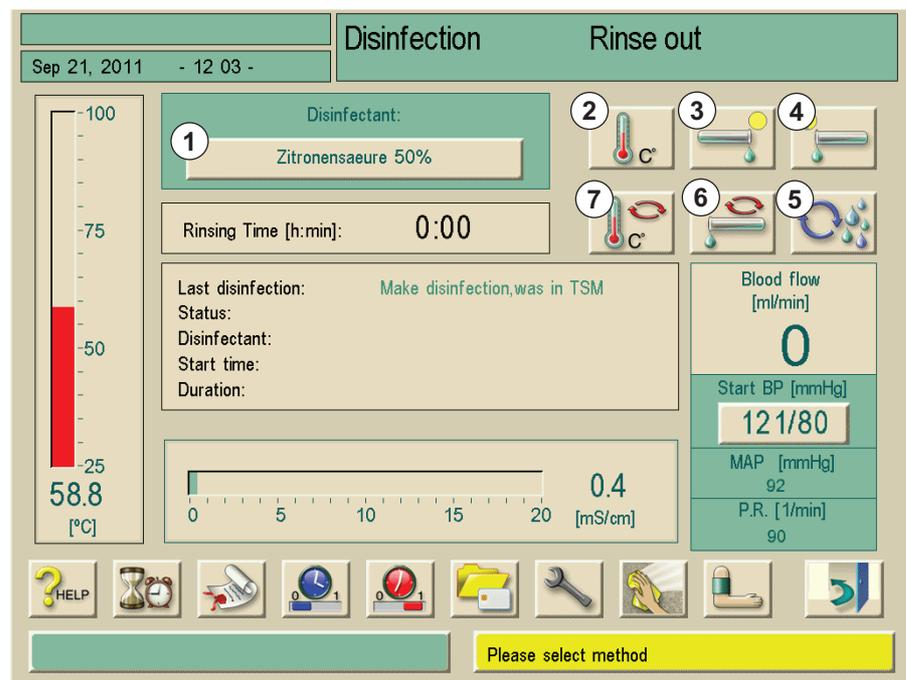

Fig. 12-1 Selection of disinfection program
1. Touch icon in Disinfection mode (see Fig. 12-1 Selection of disinfection program (223))